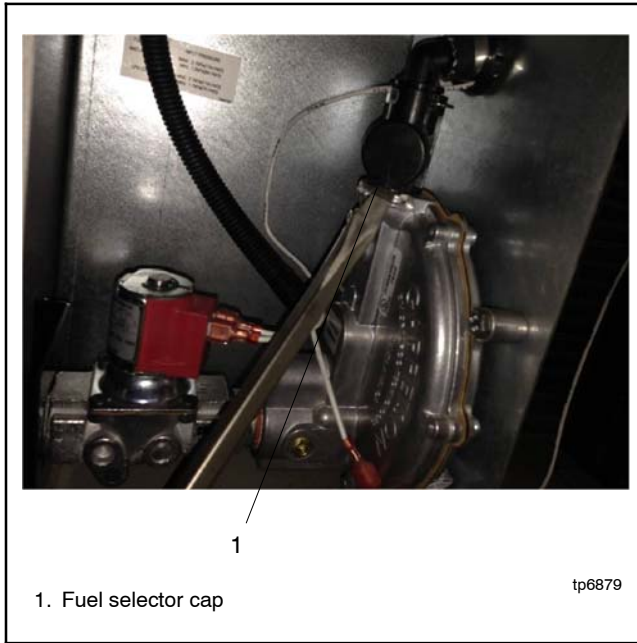

Figure 1-12 Cap Removal
6. Remove the cap from the fuel selector valve. See Figure 1-12. Insert a flat head screwdriver under the lip of the cap and push it upwards. Keep the cap close by as it is needed to switch fuels in the next step.